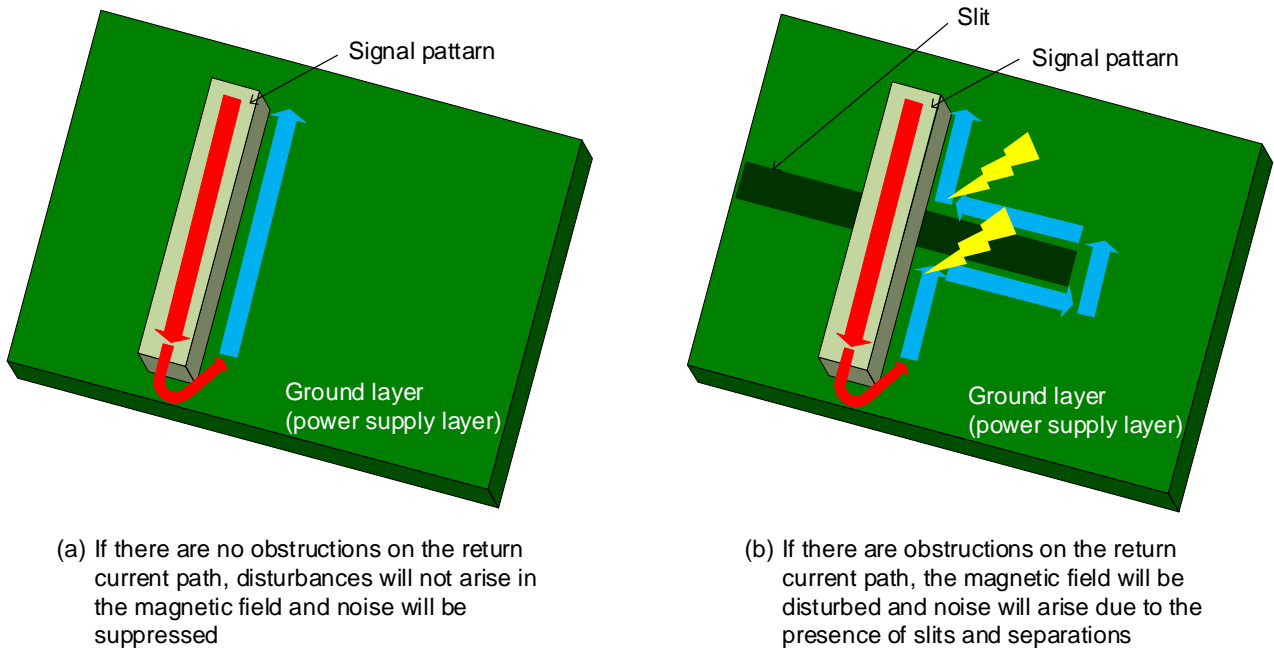

Figure 6 Return Current (Facilitated by Ground Layer)
12. Design the board such that, on the ground layer (power supply layer) along the return current path, there are no GND (power supply) slits or ground (power supply) separations. (See Figure 6.)